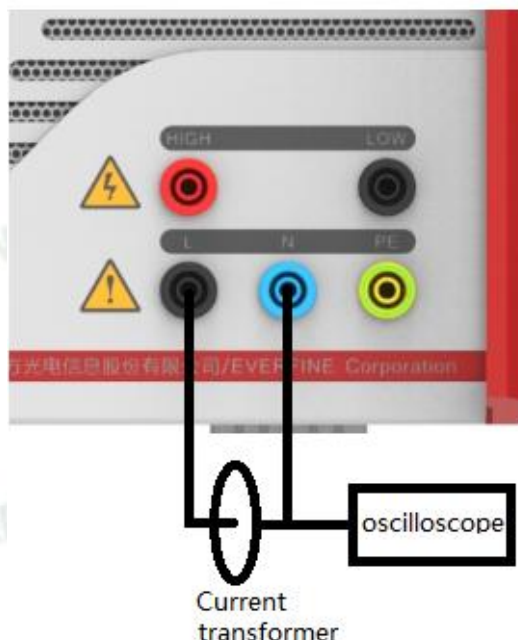

Fig 6.4 CWG module power coupling short circuit current test wiring diagram
(2) Test steps:
- ① According to Fig6.4, set "module selection" as CWG, "trigger mode" as automatic, "pulse interval/times" as 10 times, "polarity" as "+", "phase" as asynchronous, and "coupling path" as power line coupling (L1->N).
- ② Select the four test points of "voltage" - "setting value" for 0.5kV, 2.0kV, 4kV and 7kV.
- ③ Press the run button at each test point. The peak value, wave front time and half peak time of short-circuit current should be read out from the oscilloscope, and the allowable error should meet the requirements of relevant technical indexes in Chapter 2.
- ④ Change the coupling mode in the output mode/internal resistance CDN, according to the coupling mode respectively short the corresponding terminal and then carry out ①、②、③ step